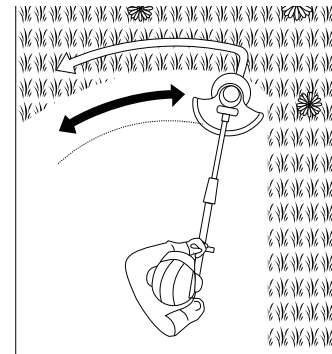

Fig. 17
4. Move the product with a slow regular arc from left to right before moving it back to the starting position before trimming the next area (Fig. 17).